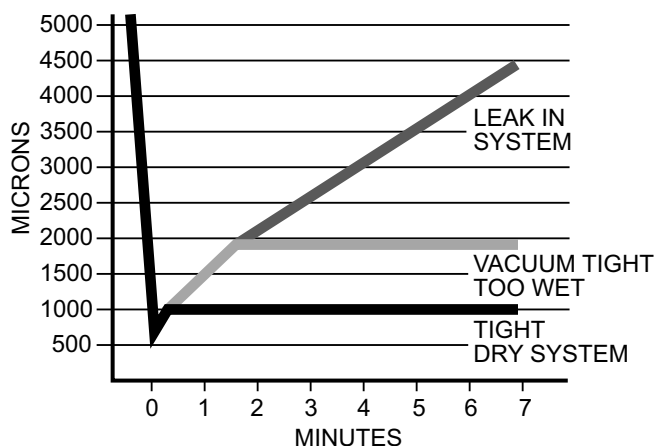

Fig. 14 – Deep Vacuum Graph
10. Perform a leak check on the unit. Vacuum unit to 500 microns. When isolating the unit from the pump, the pressure shall not rise above 1000 microns in 7 minutes (Fig. 14).